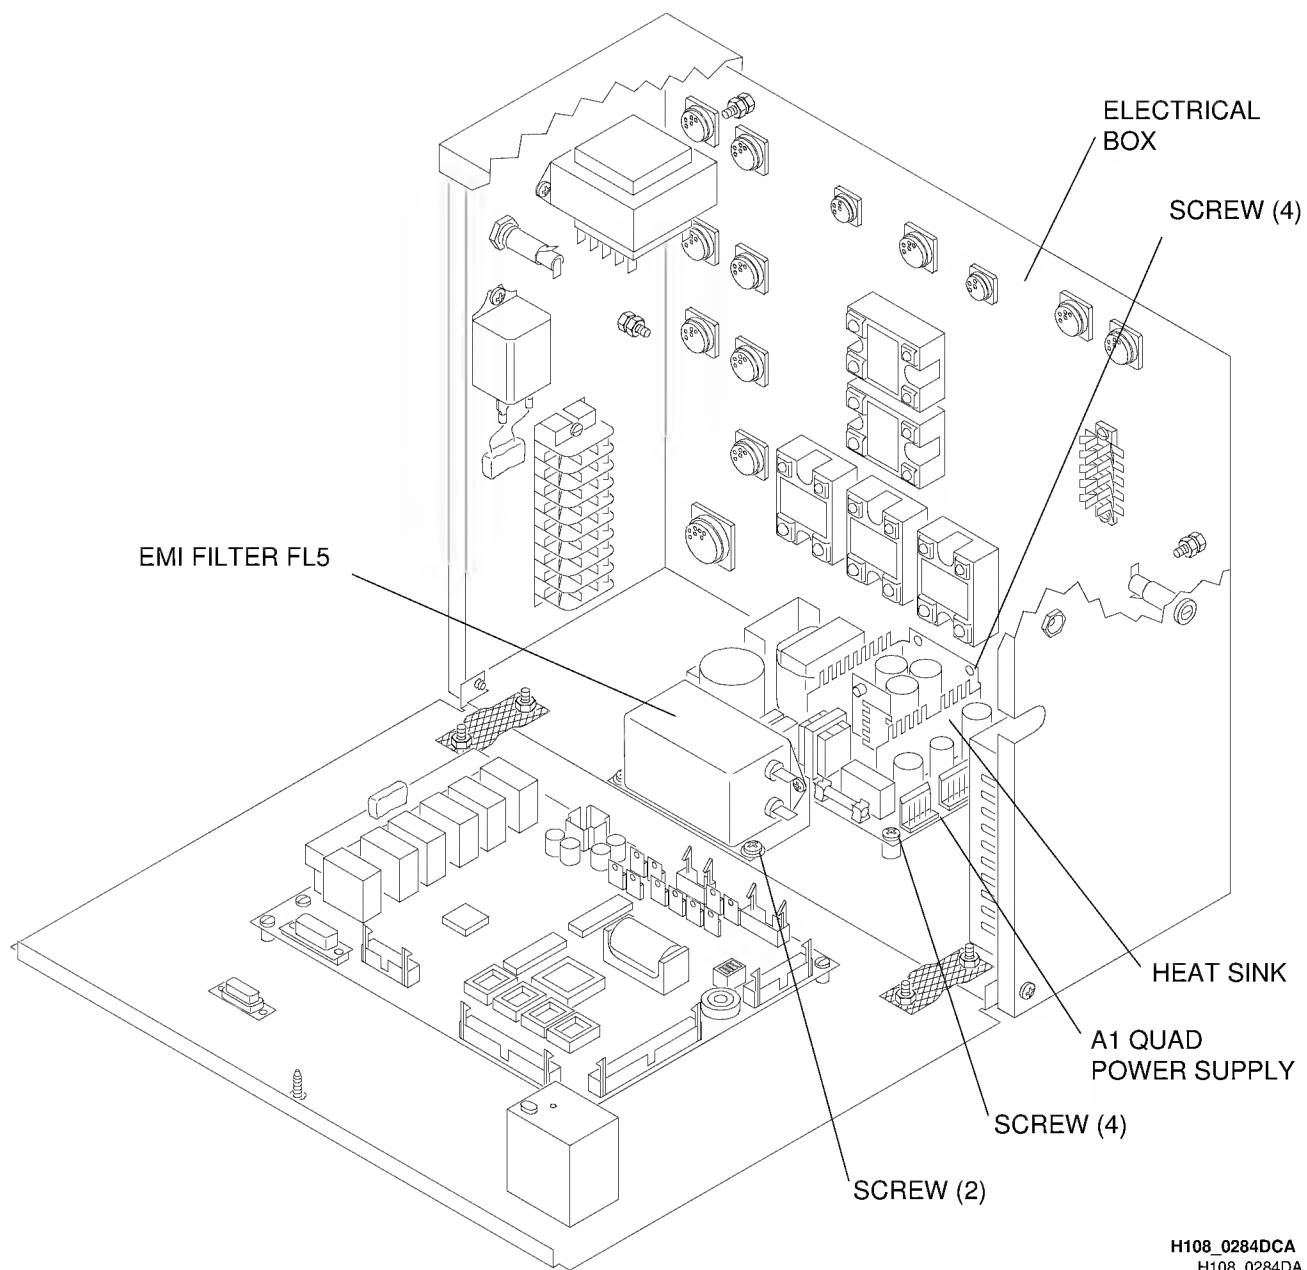

Figure 6-20 Removing the Quad Power Supply
- [1] Open the ELECTRICAL BOX. See Figure 6-20.